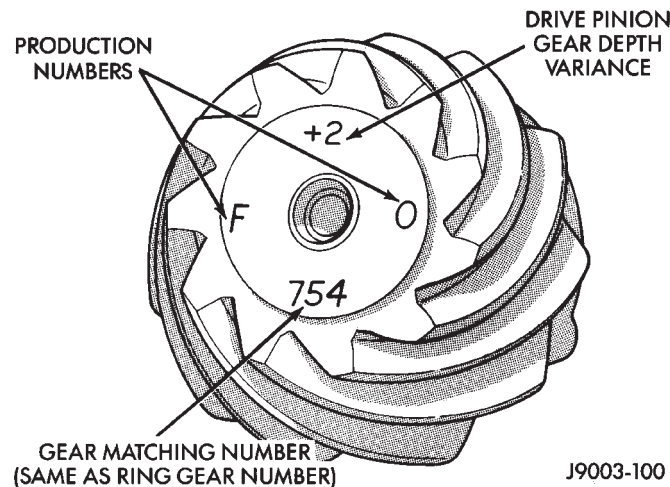

Fig. 70 Pinion Gear ID Numbers
Ring and pinion gears are supplied as matched sets only. The identifying numbers for the ring and pinion gear are etched into the face of each gear (Fig. 70). A plus (+) number, minus (-) number or zero (0) is etched into the face of the pinion gear. This number is the amount (in thousandths of an inch) the depth varies from the standard depth setting of a pinion etched with a (0). The standard setting from the center line of the ring gear to the back face of the pinion is 96.850 mm (3.813 in.). The standard depth provides the best teeth contact pattern. Refer to Backlash and Contact Pattern Analysis Paragraph in this section for additional information.
(9) Select a shim equal to the dial indicator reading plus the drive pinion gear depth variance number etched in the face of the pinion gear (Fig. 70) using the opposite sign on the variance number. For exam-